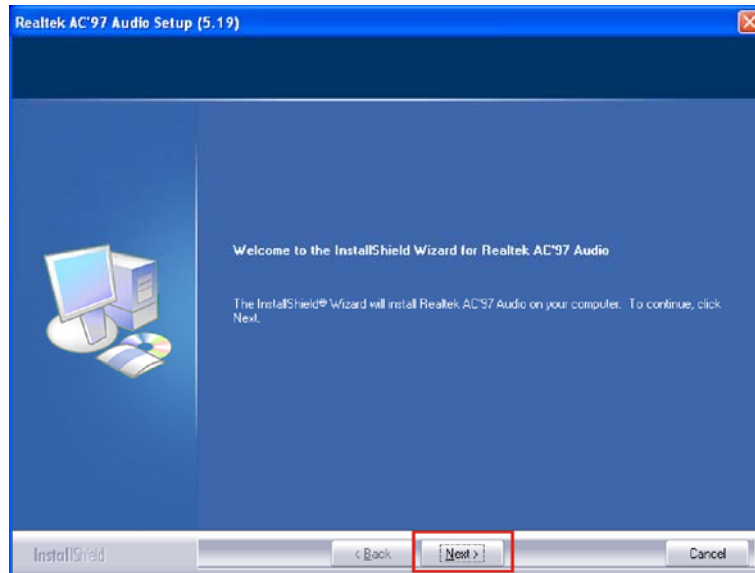

Figure 7-18: AC'97 Driver Installation Welcome Screen
Step 45: The AC'97 Driver Installation screen in Figure 7-18 appears.